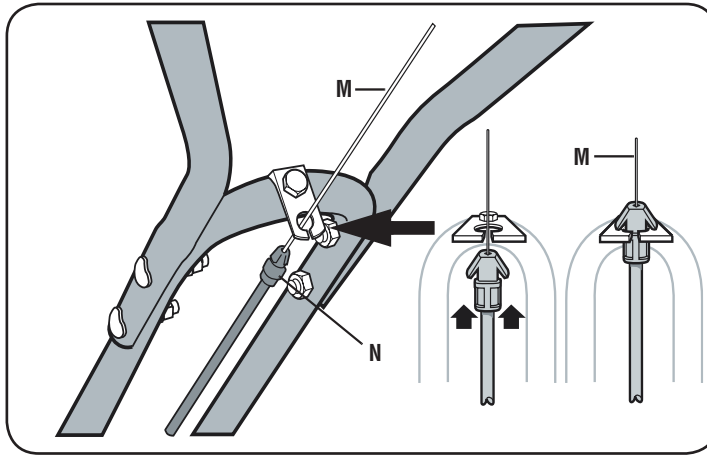

Fig. 2-4: Installing forward clutch cable bracket and cable.
- Carefully unwrap the forward clutch cable (cable without an attached knob) from its shipping position and slide the thin cable wire (M, Fig. 2-4) into the slot in the cable bracket. Push the cable connector (N, Fig. 2-4) up through the hole in the bracket until the groove in the connector snaps into place.